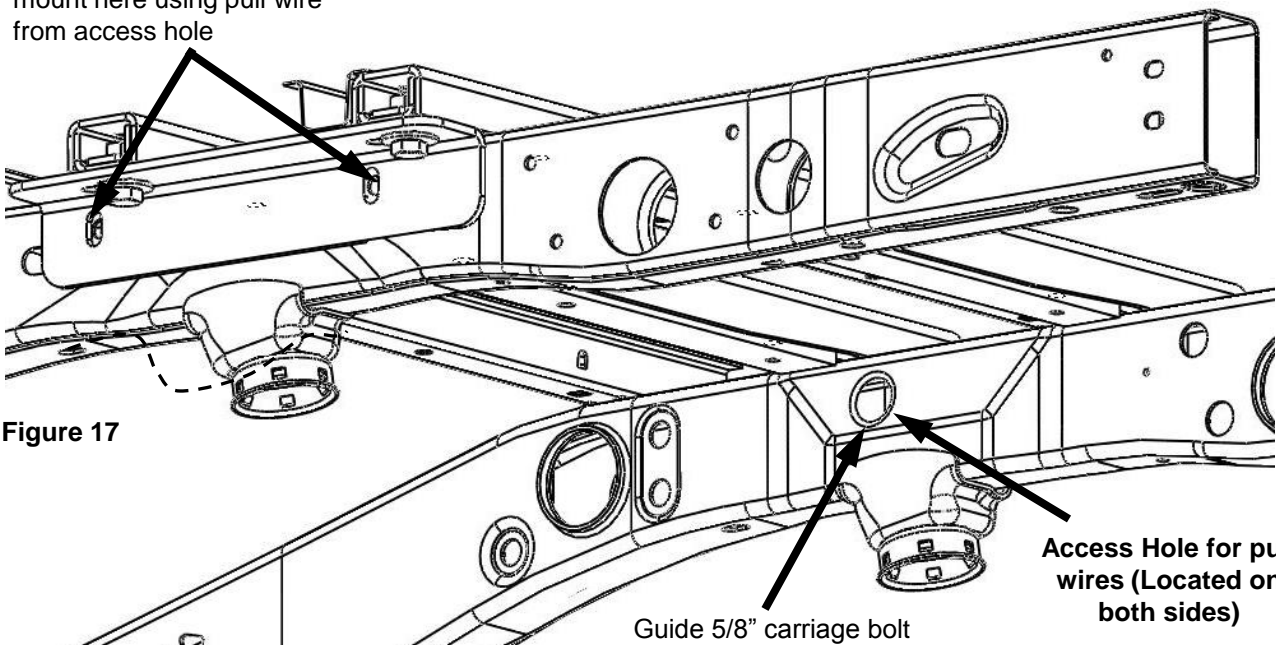

Figure 17
11. Loosely attach frame brackets to frame using 5/8" x 2" carriage bolts, 5/8" conical washers, spacers, and 5/8" nuts hand tighten (**Figure 17&18**). Slide spacer onto the carriage bolt and thread the carriage bolt into the pull wire. Guide the pull wire through chassis (using access hole as shown), then guide the wire through the chassis to position bolt and spacer through mounting holes. Loosely attach conical washer and nut from outside of frame rail.